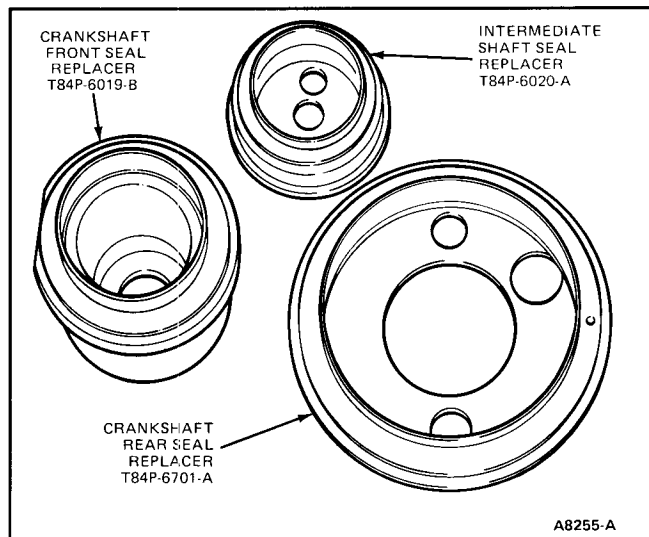

FIG. 42 Crankshaft—Front and Rear, and Intermediate Shaft Seals Installation Tools
1. Position new seal on front cover and install, using T84P-6019-B for crankshaft seal, or T84P-6020-A or equivalent for intermediate shaft seal (Figs. 42 and 43).
4. Position new seal on cover and press in using Crankshaft Rear Seal Replacer T84P-6701-A, or equivalent (Fig. 42).